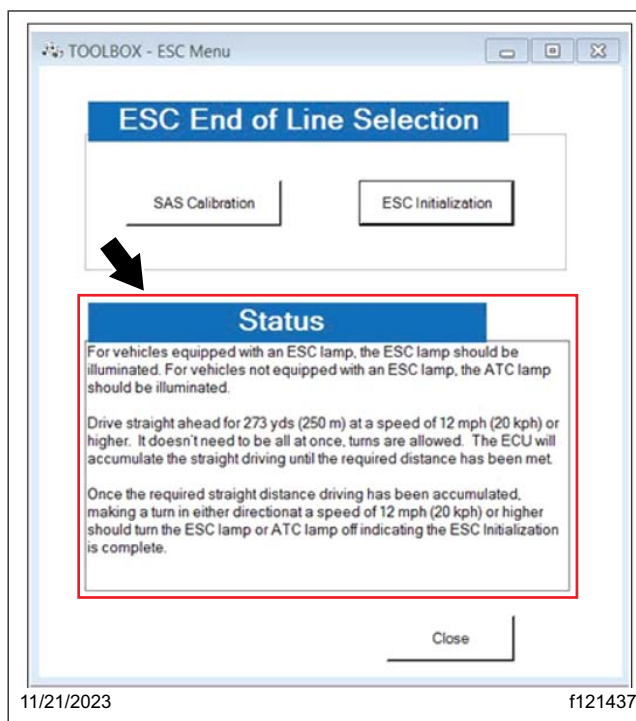

Fig. 21, ESC Initialization Status
20.4 ESC Initialization instructions will appear in the Status window. See Fig. 21.